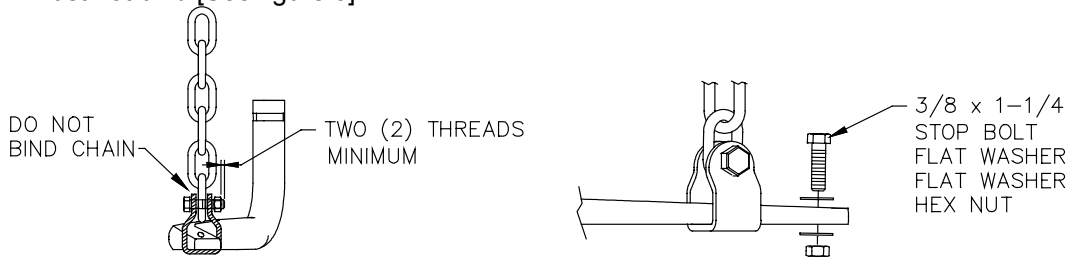

Figure 6
6. Assemble chain to spring bar hanger using 7/16-14 x 1-1/2" lg. hex bolt as shown in Figures 4 & 6. Chain must not bind [See figure 6].